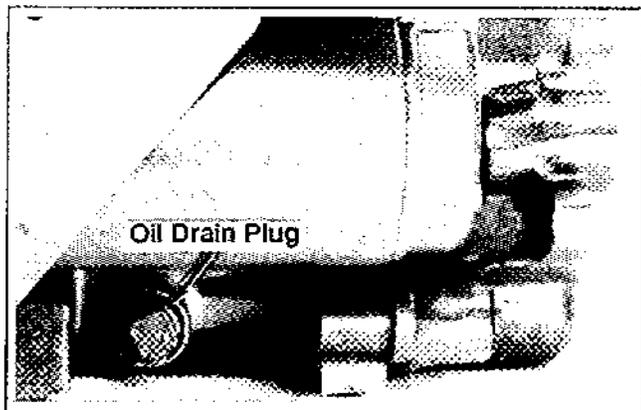

Figure 9-1. Removing Oil Drain Plug.
1. Remove the oil drain plug and oil fill cap/dipstick. See Figure 9-1.